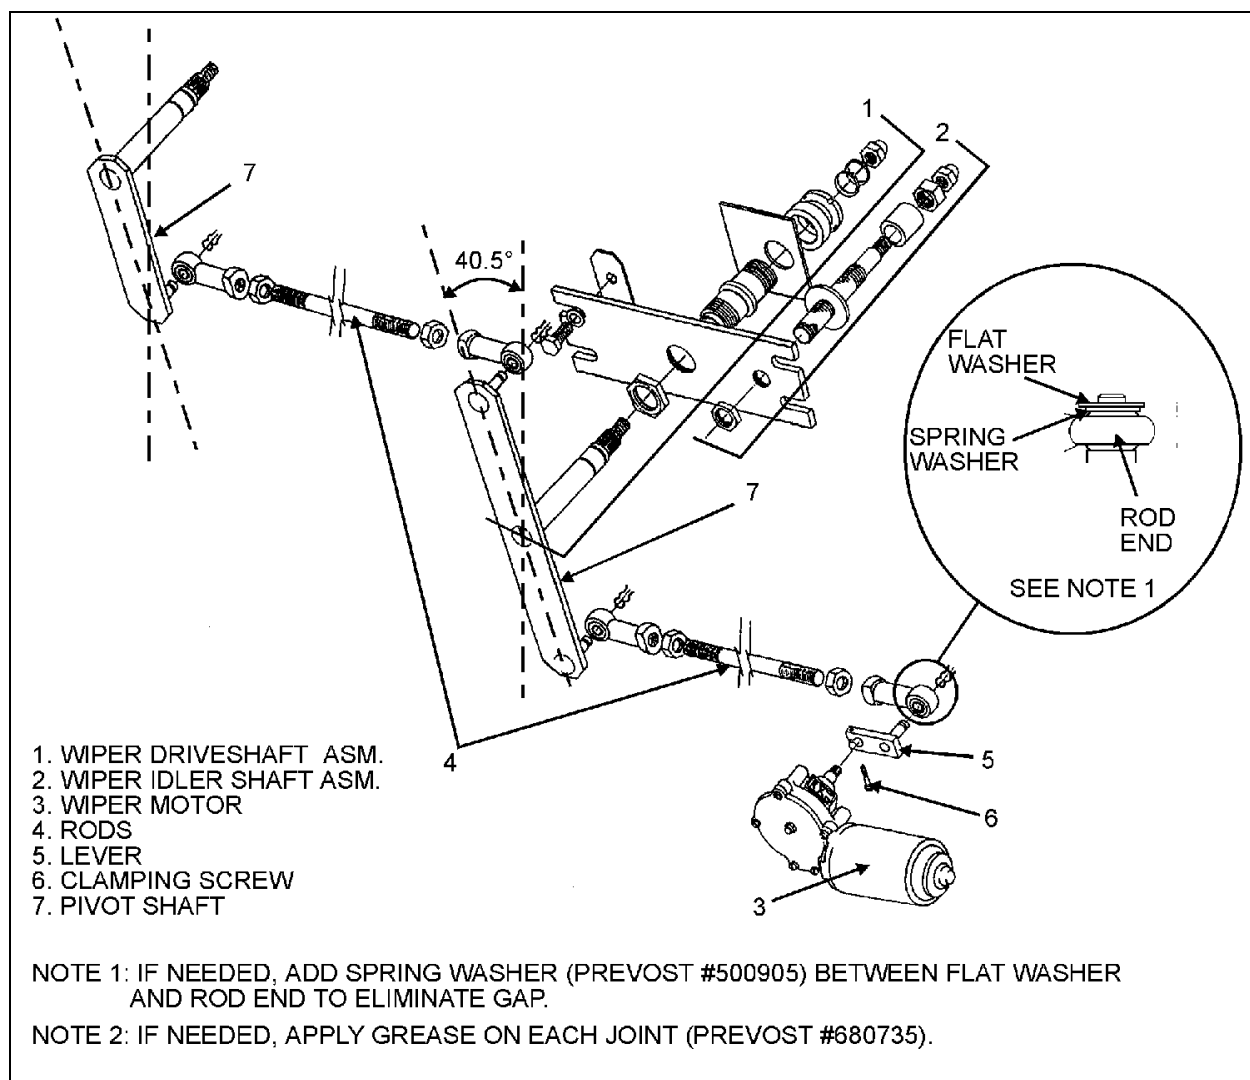

FIGURE 39: LOWER WINDSHIELD WIPER INSTALLATION
4. Adjust the rod located between right pivot shaft and motor to a 40.5° angle (Figure 39). The motor lever must be on the same axis as the rod.